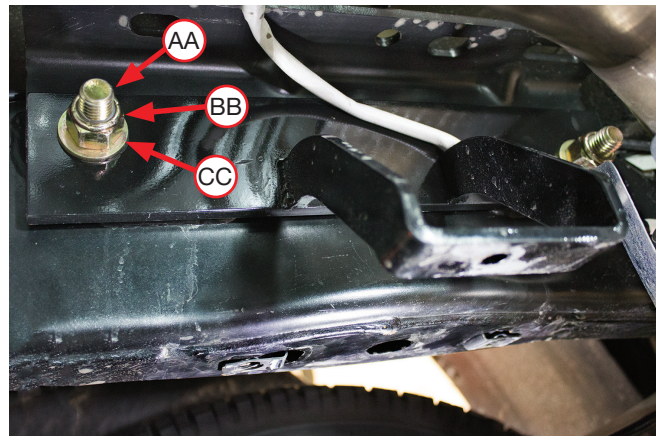

Fig. 29
- Remove the factory fifth wheel hitch hardware (if equipped), from the holes in the side of the frame. Using the existing holes in the frame, attach the upper frame brace (F) to the frame using the factory hitch hardware removed or the 5/8" (AA, BB, CC) hardware supplied (Fig. 29). Leave loose at this time.